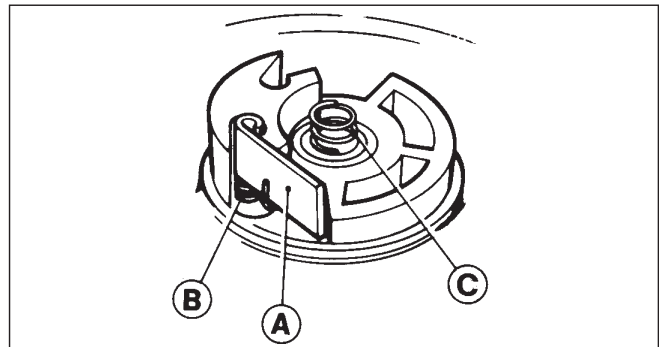

Fig. 6
- Refit retainer spring, place dog and brake spring in position (Fig 6).